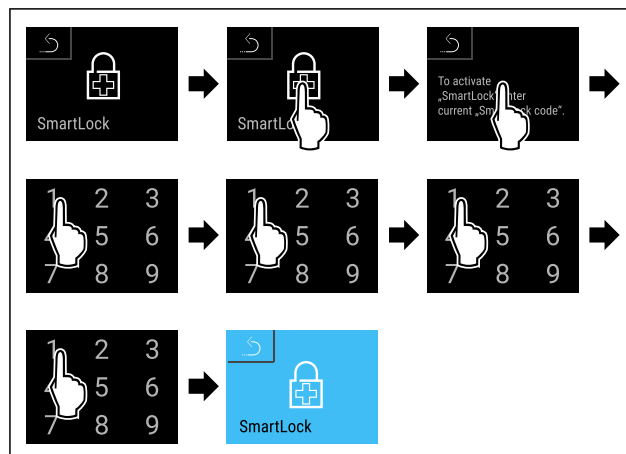

Fig. 83
- ▶ Complete steps (see Fig. 83).